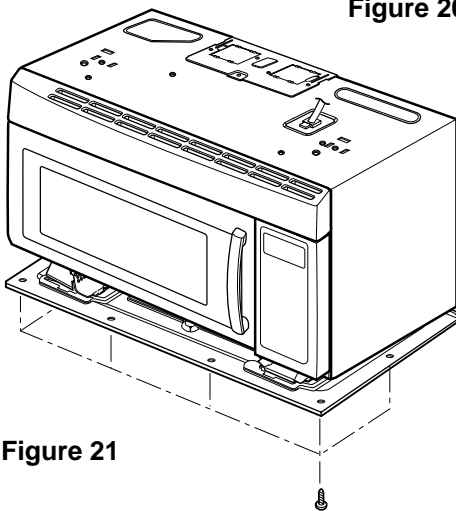
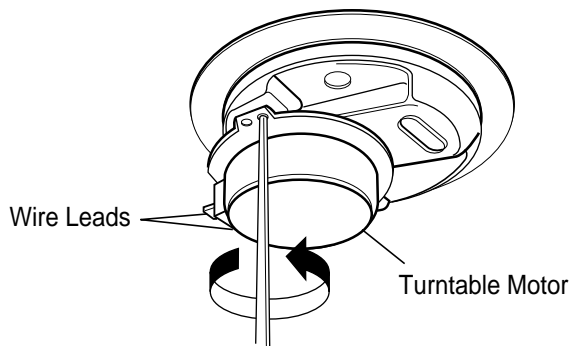

Figure 21
Figure 22
- (3) Remove the base plate by removing 7 screws securing it to the oven cavity. (Figure 21)
- (4) Disconnect the leadwire from the turntable motor terminals.
- (5) Remove the 2 screws securing the turntable motor to the oven cavity ASS'Y. (Figure 22)